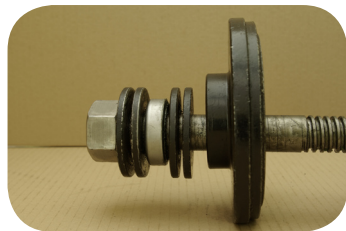

Fig. 8 · Assembled installation tool
Prior to installing the pivot bushing in the trailing arm receptacle, assemble the installation tool by placing the following components onto the threaded rod (1) in the following order (Fig. 8):
- 2 thrust washers (2)
- Thrust bearing (3)
- Cover plate (4)